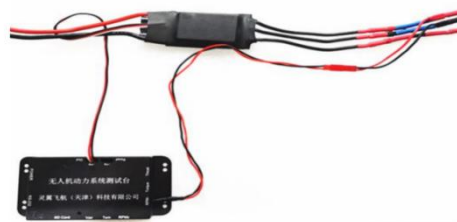

Fig 2.2.2 Signal Cable Connection
(2) ESC signal cable connects to “OUT” port on the control module, as shown in Fig. 2.2.2:
2. As shown in Fig. 2.2.2, motor, ESC and RPM sensor must be well fixed. **Keep a loose connection between motor and ESC, otherwise it will affect the accuracy of the test.**